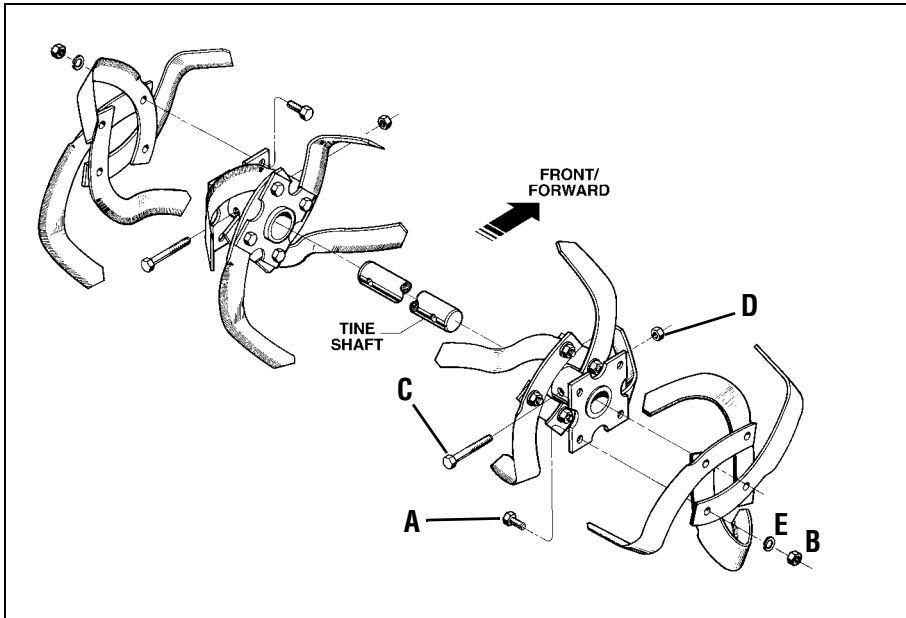

Figure 5-3: Install tines so that cutting edge of tines enter soil first when tiller moves forward.
1. With the engine shut off and the spark plug wire disconnected, remove the two screws (A, Figure 5-3), lock washers (E) and nuts (B) that attach a single tine to a tine holder. If needed, use penetrating oil on the nuts.
2. If removing both tine assemblies, mark them "left" and "right" before removal. Remove the screw (C, Figure 5-3), lock washer (E) and locknut (D) that secure the tine assembly to the tine shaft. If necessary, use a rubber mallet to tap the tine assembly outward off the shaft.